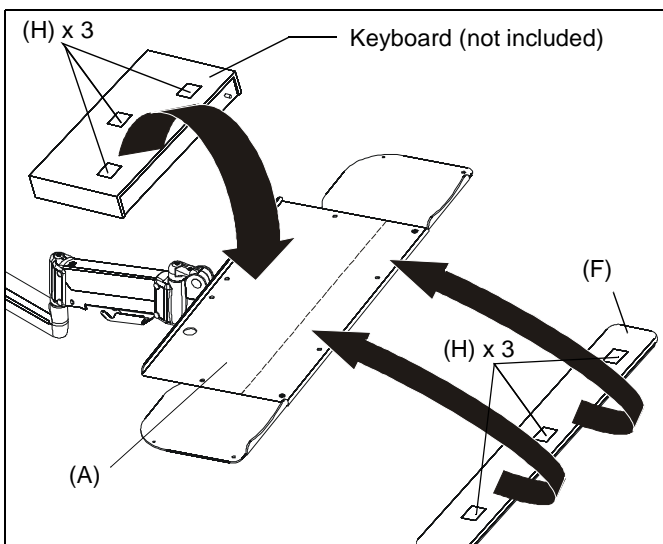

Figure 4
1. Remove paper from adhesive backing on one side of hook and loop fasteners (H).
2. Place hook and loop fasteners (H) on bottom of the keyboard (not included) and bottom of wrist pad (F) approximately as shown. (See Figure 4)
3. Remove paper from the adhesive backing on the other side of the hook and loop fasteners (H).
4. Firmly place keyboard on keyboard tray making sure to leave room for the wrist pad, if necessary. (See Figure 4)
5. Firmly place wrist pad (F) on keyboard tray in front of the keyboard. (See Figure 4)